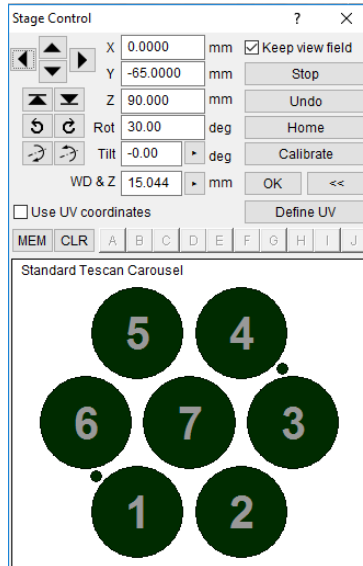

Figure 2. Stage control window.
- a. To mount pin samples on the stage, click on the appropriate sample number in the STANDARD TESCAN CAROUSEL to rotate each toward the door. See Figure 2.